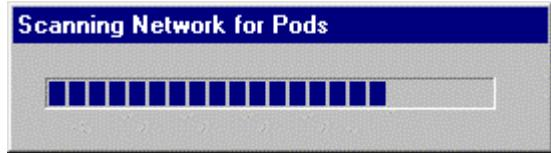

Figure 6 Scanning Network Window
*See Figure 6 for typical layout*